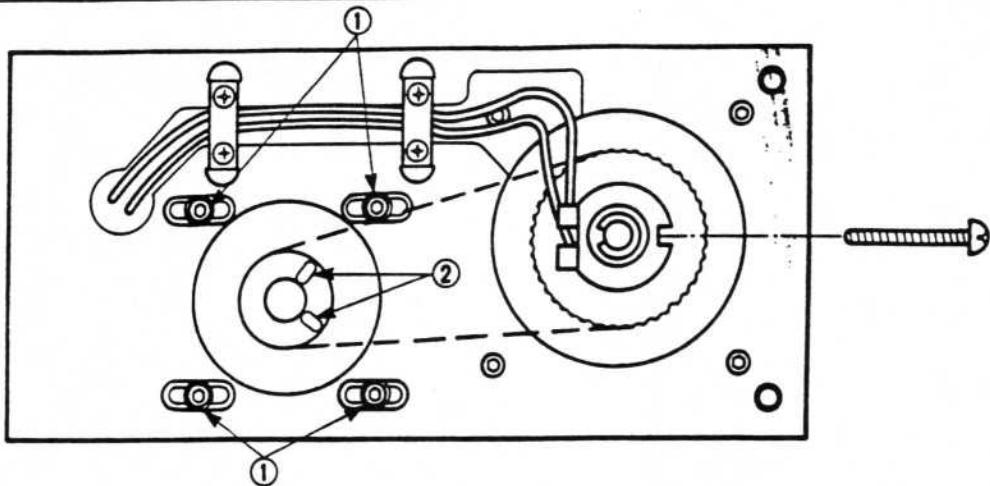

Fig. 7 View from the back side of the RT base
- (1) Loosen the motor bracket securing screws (①, x 4) (see Fig. 7).
- (2) From the outer side, apply a weight F (150 - 250 g) to the central section of the span as shown in Fig. 8, shift the motor bracket and tighten the belt so that the tension (flexure) $t = 1 \text{ mm}$ and secure the bracket with the screws (① in Fig. 7).
- (1) Loosen the motor pulley securing screws (②, x 2) (see Fig. 7).
- (2) Connect the rotary table to the main unit (motor operating).
- (4) With the assembly as in (3) above, fix the motor pulley in place with the securing screws (② in Fig. 7).